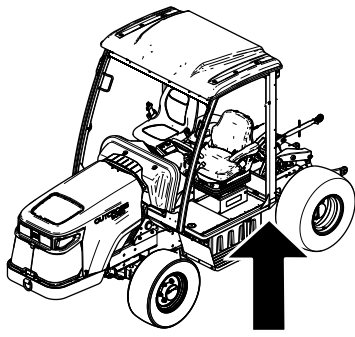

**Figure 106**
5. Remove the fill plug at the top of the brake housing (Figure 106).
7. Install the fill plug into the fill port (Figure 106).